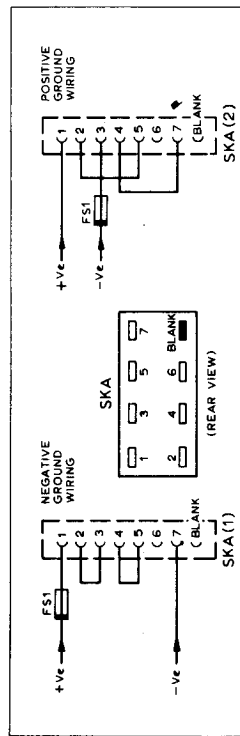

Fig. 1.2 Power Input Socket Wiring
2. The socket (SKA) terminating the fused power lead assembly is normally wired for NEGATIVE ground supply systems and fused in the positive lead. For POSITIVE ground systems the socket must be wired as shown for SKA (2) in Fig. 1.2 and fused in the negative lead. The cable assembly length is 20 ins.